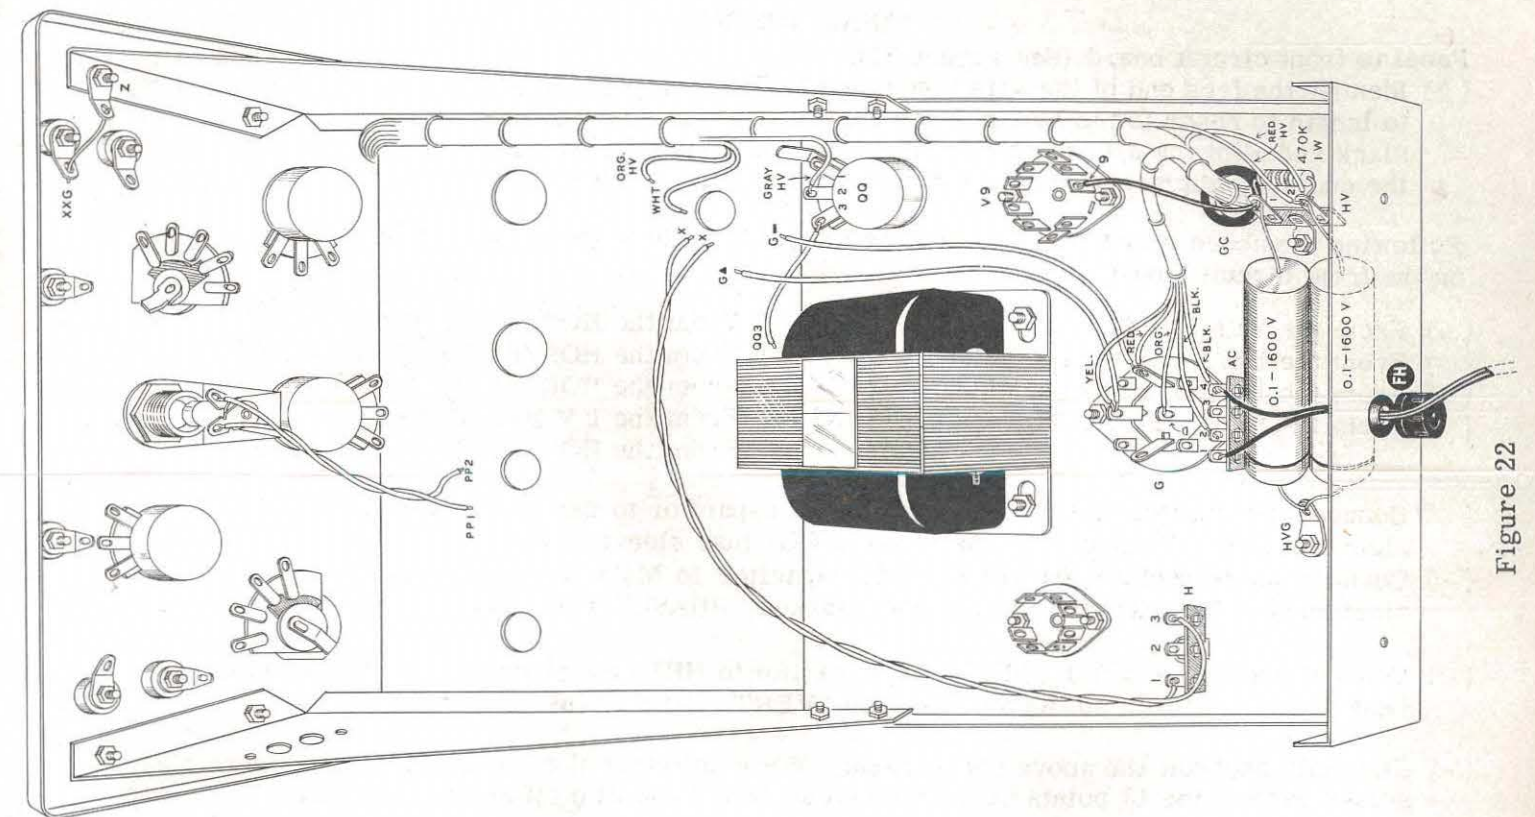

Figure 22
- (✓) The two outside screws are then added and all four may then be tightened securely. Align the terminal strip HV parallel to the length of the chassis, with phenolic insulator nearest the outside edge of the chassis. (See Figure 22.)
Before doing any of the inter-assembly wiring, the high-voltage power supply wiring should be completed. (Refer to Figure 22.)